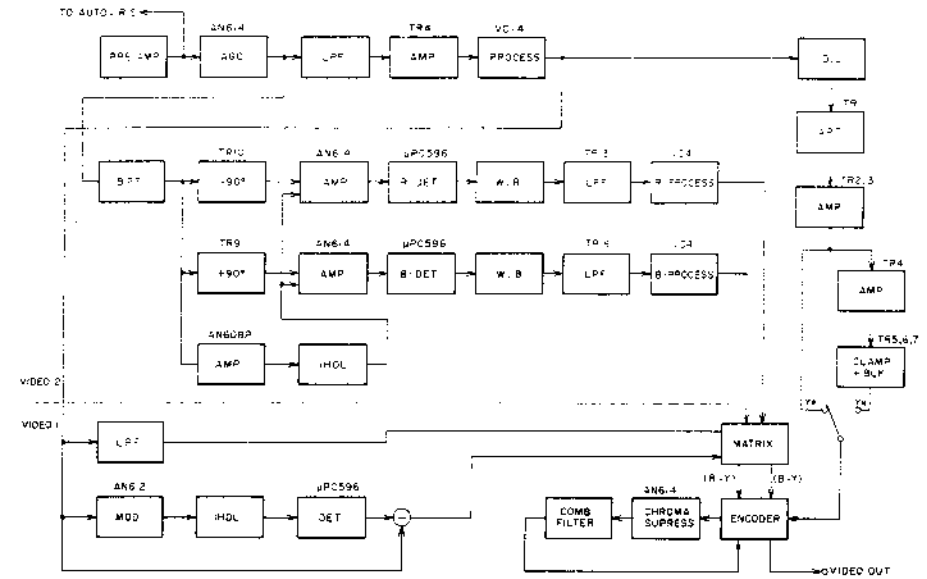
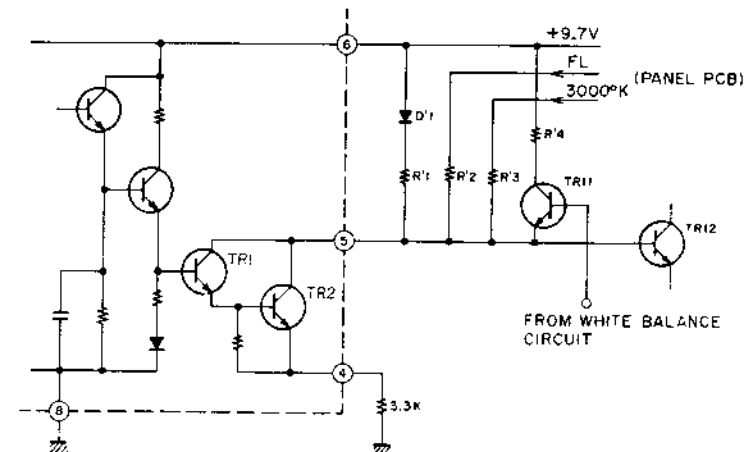

Fig. 18
Fig. 22
The video amp is made up of two P.C Boards: Video (1) and Video (2). Its block diagram is shown in Fig. 18. Output from the pre amp is clamped by TR1 and then supplied to pin ① to IC1 (AN614).
With the VC-X1, the white balance circuit is preceded by the detection circuit for 3.8 MHz-modulated waves (R and B) produced in the color separation circuit. (See Fig. 18). Fig. 22 shows the white balance circuit connections.